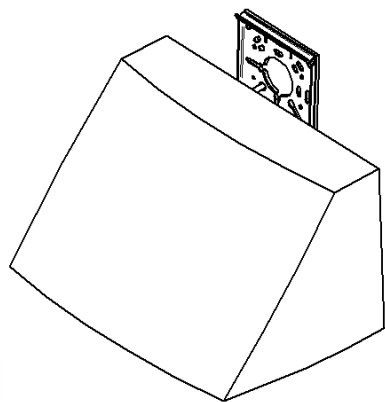
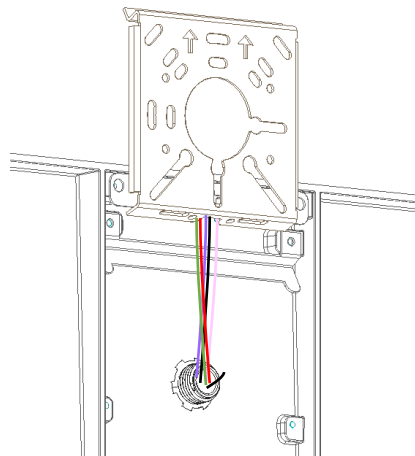

Figure 3
Figure 4
4. Hang the fixture onto the hook section of the mounting bracket, feeding the x5 wires up through the slot in the middle (Figure 3 and Figure 4). Make the appropriate wiring connections.